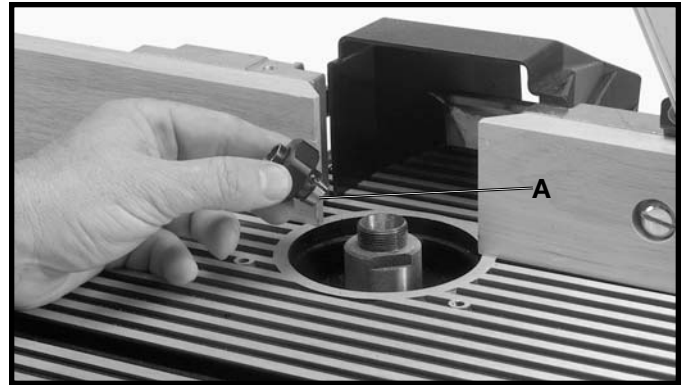

Fig. 32
3. Assemble collet (A) Fig. 32.